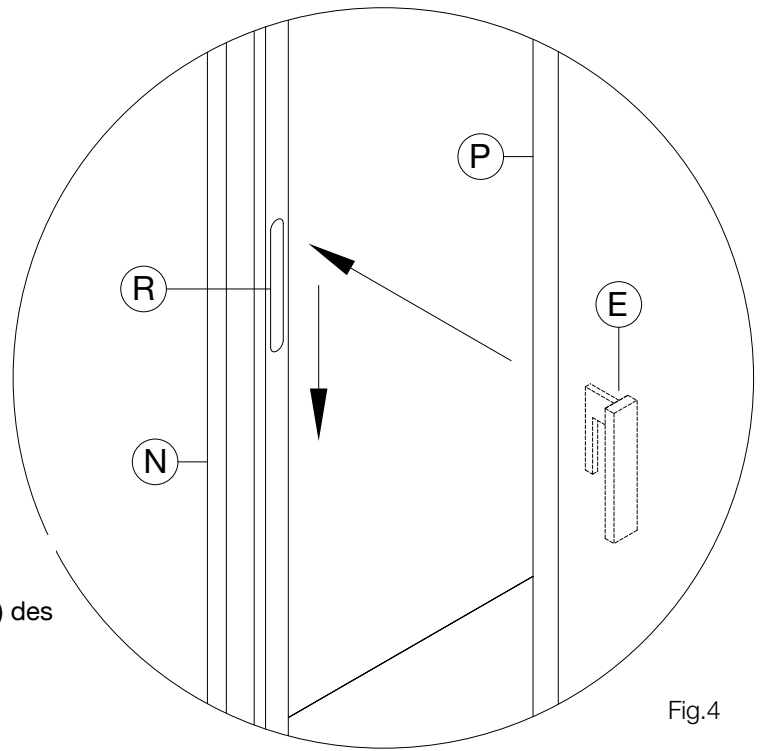

Fig.4
Applicare l'anta (P) alle guide di scorrimento (N) agganciando i n°4 ganci (E) alle asole (R) ricavate sulle guide di scorrimento (N) (fig.4).
Fix the door (P) on the sliding guides (N) hanging the 4 hooks/E/ into the loops (R) which are present on the sliding guides/N/. (fig.4)
Fixez la porte (P) aux guides de glissement (N) en insérant les 4 crochets (E) dans les oeilletons (R) des guides de glissement (N) (fig. 4)